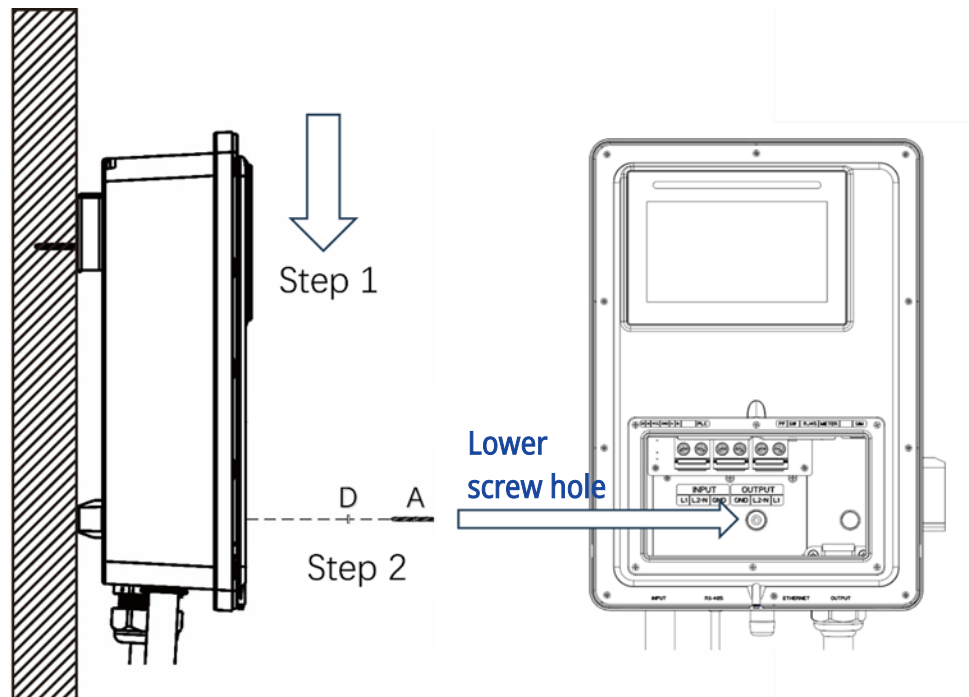

Figure 4.7 Fixing the Charger on the Wall
- 4) After the positioning plate is fixed in a horizontally leveled position, install the charger on the positioning plate by sliding it down in the direction of the arrow depicted in **Step 1** on the left of **Figure 4.7**, till the device hangs firmly.
- 5) Use the one remaining ST4x40 screw (wall-mounting **Accessory B**) and the 1-piece waterproof gasket (wall-mounting **Accessory D**) to fix the lower part of the charger on the lower screw hole on the wall (**Step 2** as shown in **Figure 4.7**). The screw hole on the charger is found in the back of wiring area, as shown on the right of **Figure 4.7**.